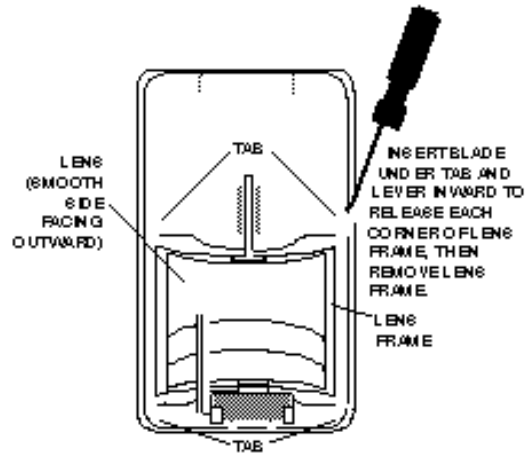

Figure 4. Changing Lenses
2. Release the lens support frame located in front cover as follows: Insert the blade of a small screwdriver between the locking tab and the detector case in each of the four corners of the frame, and lever each tab upward to release. See Figure 4. When all four corners are released, remove the lens support frame.
3. Remove the existing lens and replace with the replacement lens. **The lens must be installed with the smooth side facing outward. Also, the lens should be oriented with its part number on the upper right-hand side (see Figure 4).** Be sure to center the lens.
2. Release the lens frame as shown in Figure 4.